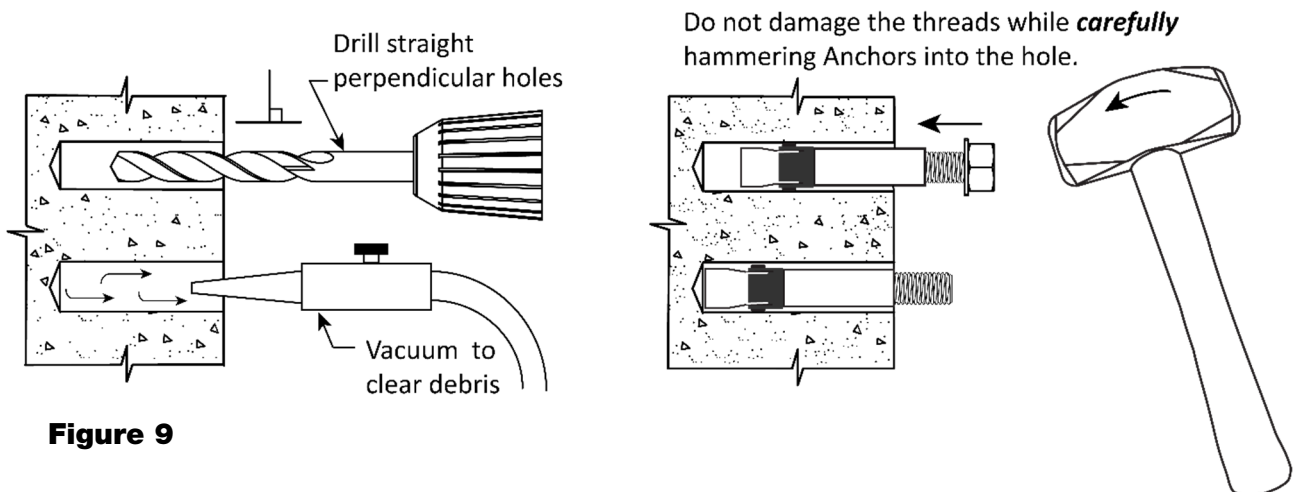

Figure 9
5. Use a vacuum or compressed air to thoroughly clear the debris from the hole. Do not make the holes any larger than necessary. Refer to **figure 9**.
6. Use a vacuum or compressed air to thoroughly clear the debris from the hole. Do not make the holes any larger than necessary Refer to **figure 9**.